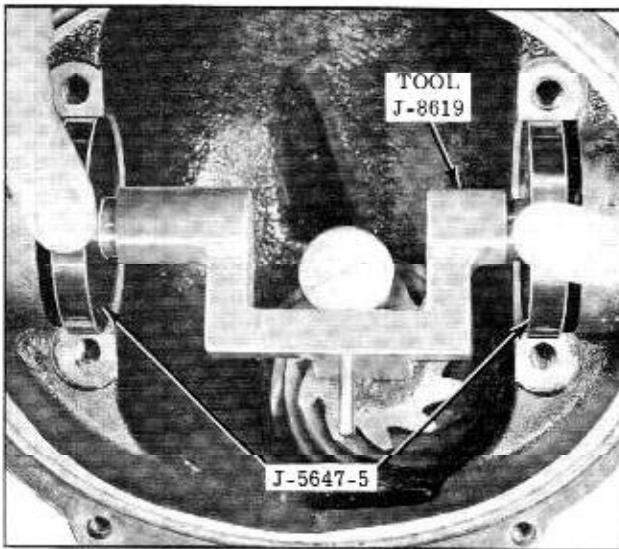

Figure 6-21 Gauging Pinion Depth
4. Place gauge in carrier with indicator contacting gauging tooth. If necessary, rotate gear. (Fig. 6-21) Gauge guide pin must be in center of pinion.